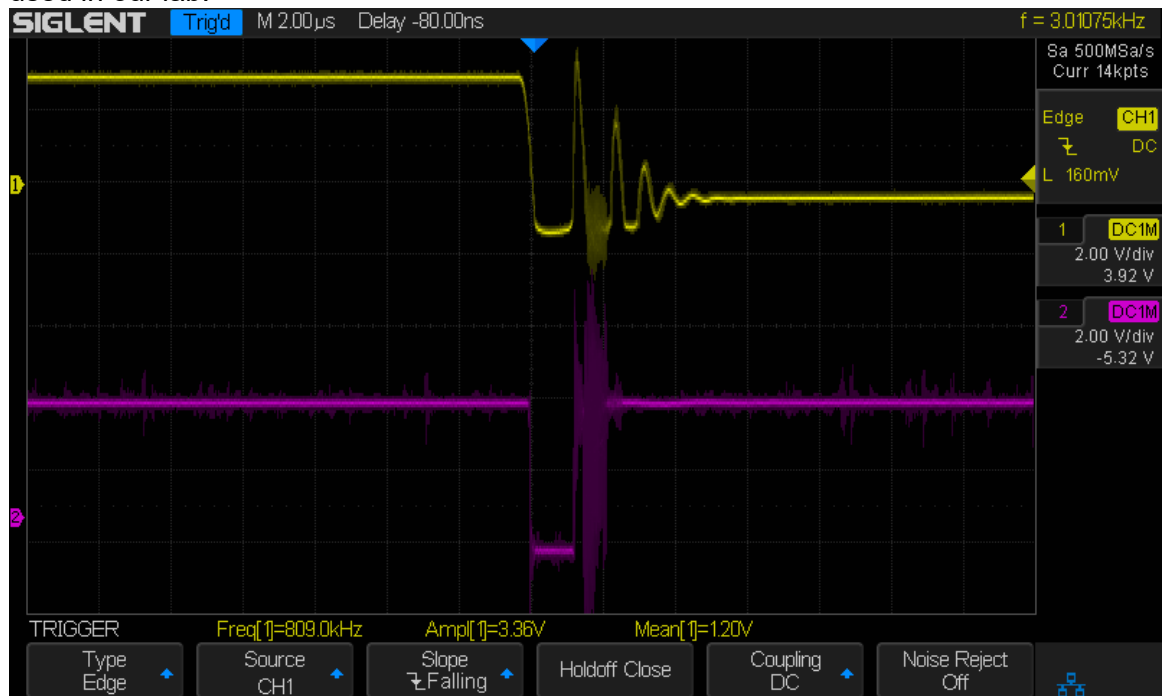

Figure 8 - Waveform With Static Hazard
- 3) In fact, we can observe the difference between the two circuits using the oscilloscope. Here the yellow line in the graph denotes selector B and the purple line represents the output Z. As shown in Figure 8, the output is based on function $Z = BA + B'C$, which has static hazard. In addition, when B is switched from 1 to 0, the output wavers a couple times before stabilizing due to contact bounce. For our experiment, this cannot be fixed because this is an issue related to the switches used in our lab.